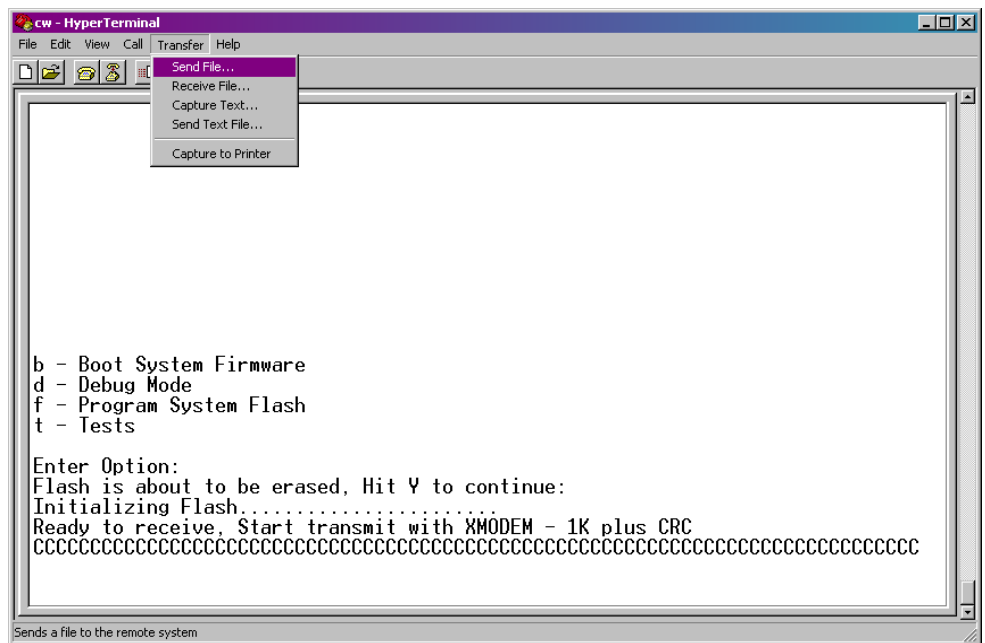

Figure 5-2. HyperTerminal (Ready to Download)
7. When the FLASH is ready for download, HyperTerminal repeatedly displays the letter C on the screen. In the HyperTerminal menu bar click **Transfer > Send File** (see Figure 5-2).